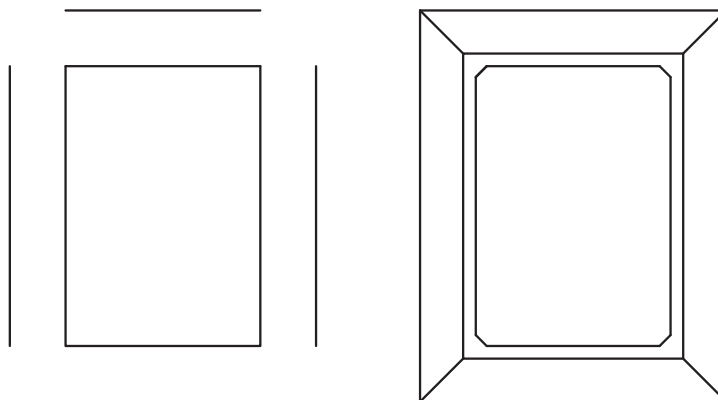

Fig. 16-20
7. Create the picture frame shown in Fig. 16-20. First create the drawing on the left using the **LINE** and **OFFSET** commands. Then modify it to look like the drawing on the right using the **CHAMFER** command.